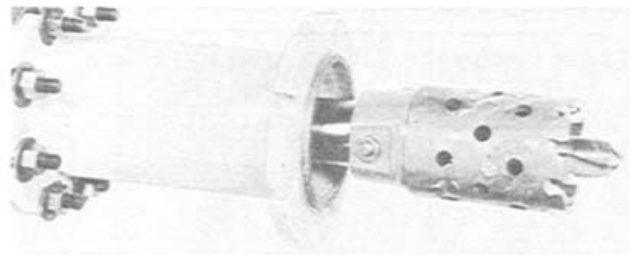

FIGURE 12
- b. 4 $\frac{1}{4}$ " shell cutter for use with 4" fittings when using C1-36 or CC-36 Machines. (Follow Instruction "a" above for this size when using CH-6 Machine.) Assemble shell cutter and cutter hub. Insert the shank of pilot drill into the socket in the boring bar. Slide cutter hub and shell cutter over the end of the boring bar. Align holes in the cutter hub, boring bar and pilot drill and attach to boring bar with hub retaining bolt. **Figure 12.** Coat shell cutter and pilot drill thoroughly with MUELLER cutting grease.